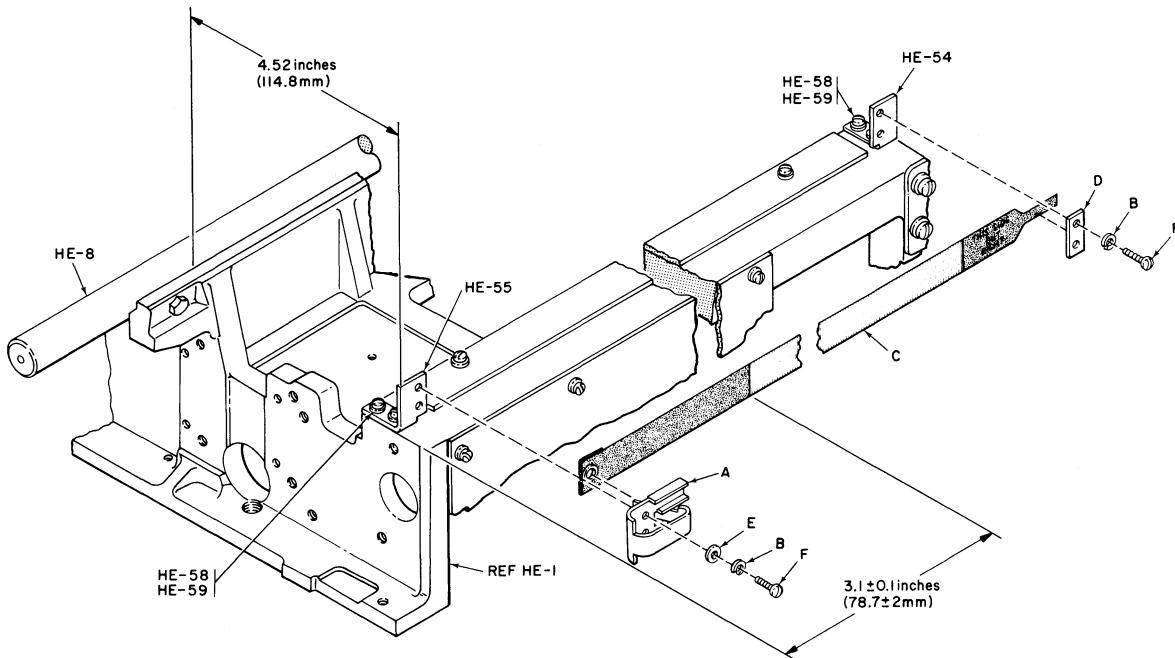

Figure 5-3. FLEXIBLE TIMING FENCE MOUNTING, SERIES 101
- A. The following removable parts are not described in a disassembly/assembly order but their locations are on the Frame (HE) drawing with their key numbers.
- B. Installation of Flexible Timing Fence 63002440 (Fig. 8-6 and Fig. 5-3)
1. Mount spring clasp (Fig. 5-3/A) on left bracket support (HE-55) using two screws (Fig. 5-3/F), two split lockwashers (Fig. 5-3/B) and two flat washers (Fig. 5-3/E). Clasp should be horizontal and perpendicular to printer machine casting (HE-1) when mounted on left bracket support (HE-55).
2. Mount right bracket clamp (Fig. 5-3/D) using two screws (Fig. 5-3/F) and two split lockwashers (Fig. 5-3/B).
3. Mount left side of flexible timing fence behind clasp (Fig. 5-3/A) by placing mounting hole over spring projection pointing towards back of printer.
4. Insert right side of flexible fence (tab end) between right clamp (Fig. 5-3/D) and right mounting bracket (HE-54). Right side surface of fence should read "THIS SIDE OUT, RIGHT" (facing operator).
1. Loosen screws (Fig. 5-3/F) on clamp (Fig. 5-3/D) and pull tab of fence to the right so that the first window of the fence is located  $3.1 \pm 0.1$  inches ( $78.7 \pm 2$  mm) from edge of printer casting (See Fig. 5-3, Ref. HE-1). (Note that this dimension adjusts for a 5/8-inch print margin on printing form).
1. From the front edge of guide bar (HE-8) (Fig. 5-3) measure 4.52 inches (114.8 mm) out to the left and right edges of the fence. Do not exceed given dimensions.
2. If parallelism is not uniform along entire length of fence, loosen screws and washers (Fig. 5-3), (HE-58, 59) in either left or right bracket (HE-55, 54) and obtain equal measurement at both ends. Tighten hardware when correct dimensions have been obtained.